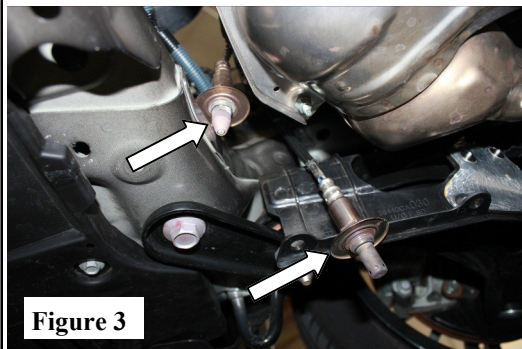

Figure 3
3. Loosen and remove (2) O2 sensors from the factory manifold. (See Fig.3)